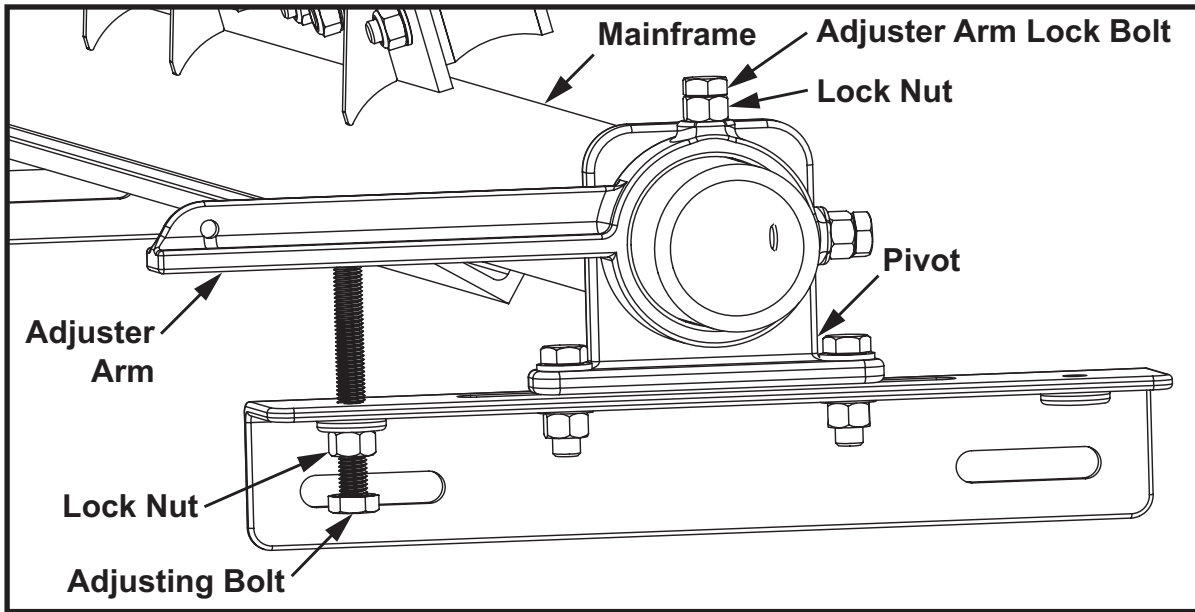

Figure 7. Martin® H1 Primary Belt Cleaner HD Adjuster Arm
- Install the adjuster arms onto mounts but do not tighten. (Refer to Figure 7.)